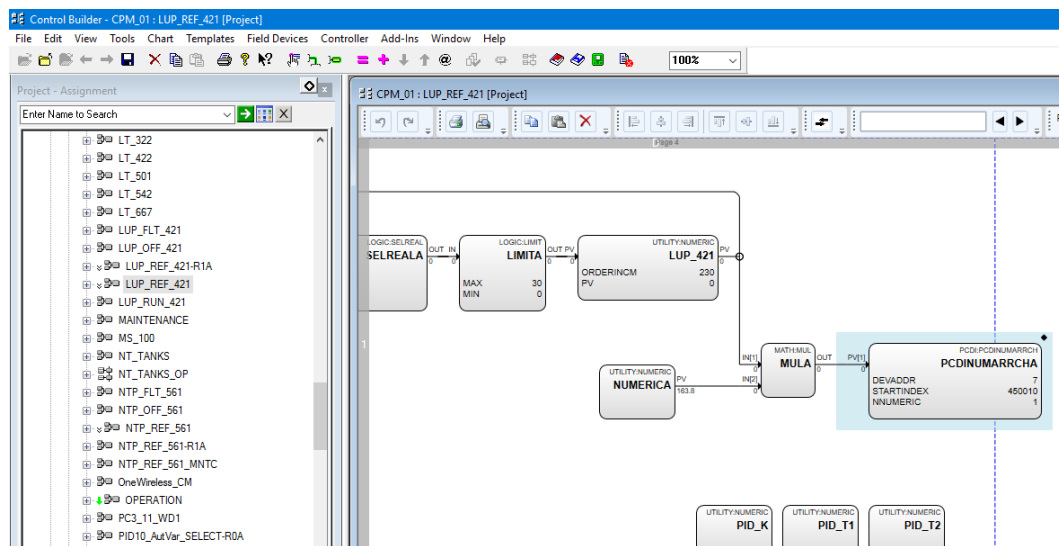

Figure 4: 'PCIDNUMARRCH' block in LUP_REF_421 (Step 3a), Take note of the device address (DEVADDR) on the front of the block graphic.
1. Locate the 'PCDINMUARRCH' block in CM (Figure 4).